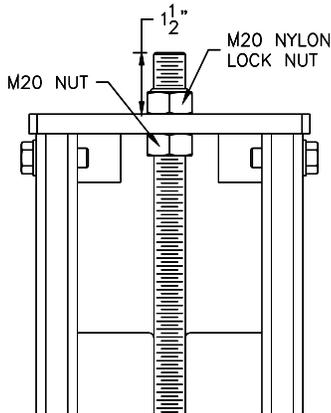

Fig 14 – Lock Ladder Assembly
- 22) Adjust the lock ladder so about 1½” remains sticking out of the top. Torque both bolts as shown in **Fig 14** when ladder is properly orientated. Note: When adjusting the lock ladder it may be necessary to loosen or remove the bolts holding the top cap to the column so the bottom nut can be adjusted.